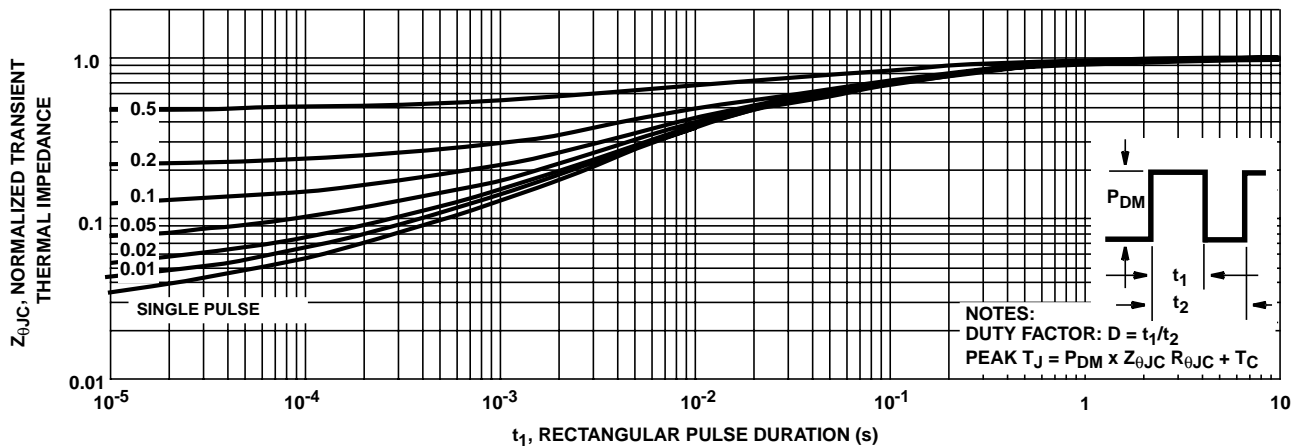

FIGURE 3. NORMALIZED TRANSIENT THERMAL IMPEDANCE
3. Repetitive rating: Pulse width limited by maximum junction temperature. See Transient Thermal Impedance curve (Figure 3).